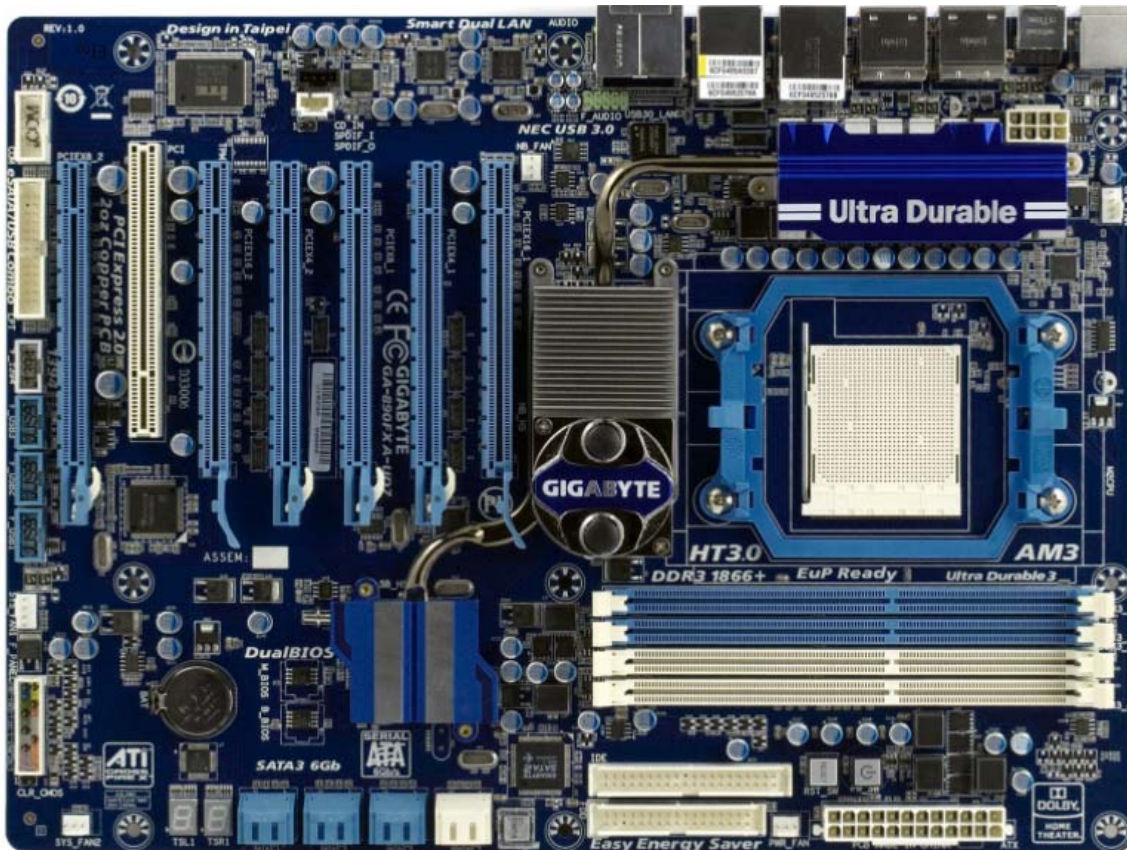

Figure 5.1
5. (a) For a typical 4-layer desktop motherboard in Figure 5.1
- (ii) What type of packages are typically used for the chipset in the motherboard in Figure 5.1?